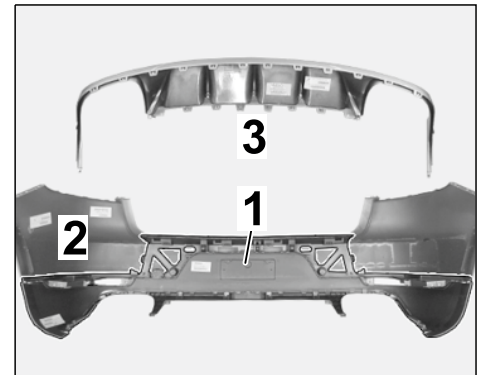

Figure 15
- 4.1 Remove standard rear panel and install new painted rear panel in rear apron (⇒ *Figure 15*; ⇒ *Workshop Manual '635619 Removing and installing rear panel'*)